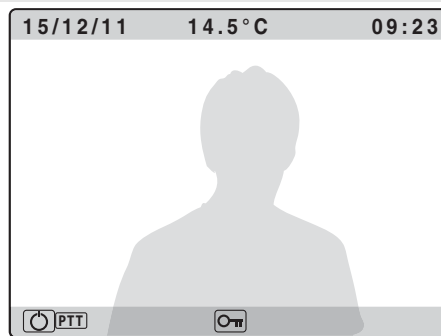

Fig.3a
- To switch from hands free to push to talk mode, keep pressed the  until the related LED starts to flash slowly Fig.3a. Keep pressed the  button to talk to the visitor (the LED flashes quickly) and release the button (the LED flashes slowly) to listen the visitor;
3. As shown in figure 3a*, once the wires are connected, fix the videophone to the wall using a Phillips screwdriver and the two screws provided.